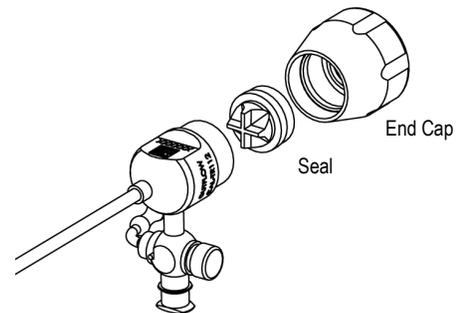

Figure 3. Seal installation
Both the hysteroscope and the outflow channel require installation of single-use seals at the proximal end of their working channels. Figure 3 below illustrates the seal installation process.
2. Place seal within inside end cap in the orientation shown in Figure 3.